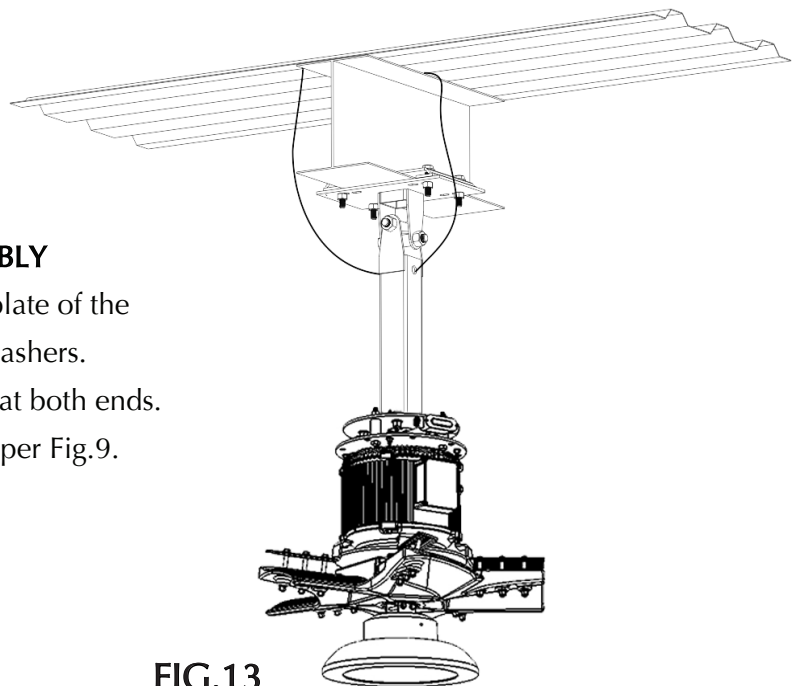

FIG.13
2. Position the safety cable as per Fig.13, loop at both ends.